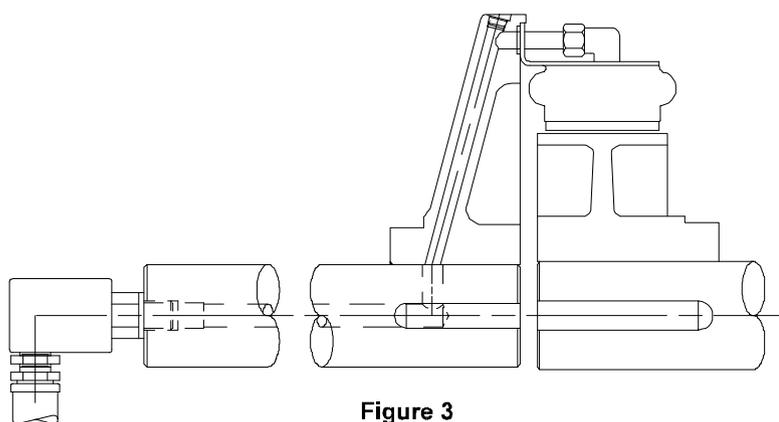

Figure 3
2.1.2 Close-mounted arrangements may be used when shaft-to-shaft clearance is limited, as illustrated in Figure 3.